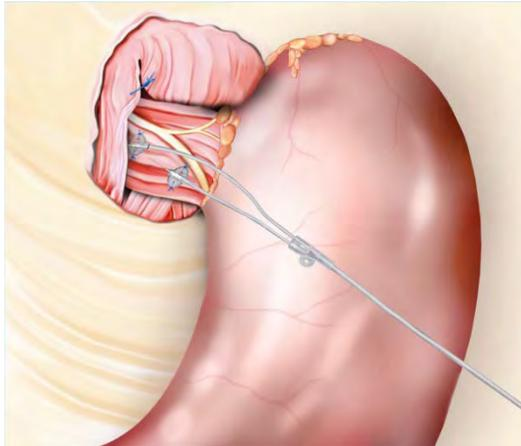

Figure 12 Crural Stitch Example (Anterior)
9. Suturing may be performed as required to approximate the crura (Figure 12).